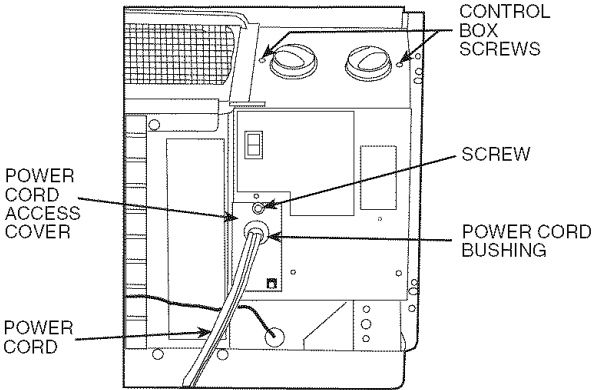

Fig. 3 — Control Box Component Location
- Step 3** — Remove power cord access cover and save screw for later use. See Fig. 3.
- Step 4** — Open control box by removing 2 screws. Save screws. See Fig. 3.
**Step 3** — Remove the power cord access cover from control box and disconnect plug assembly. See Fig. 3 and 5.